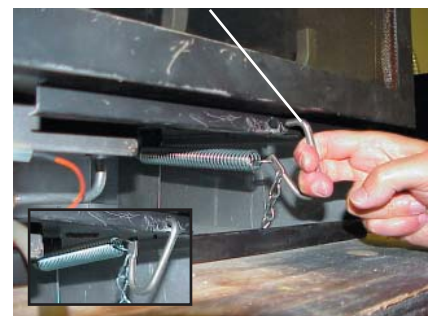

Figure 9 Door hook is located below glass door
1) Locate the spring hook under the glass door assembly (see Figure 9). Pull hook forward until it releases out of the bottom door frame.